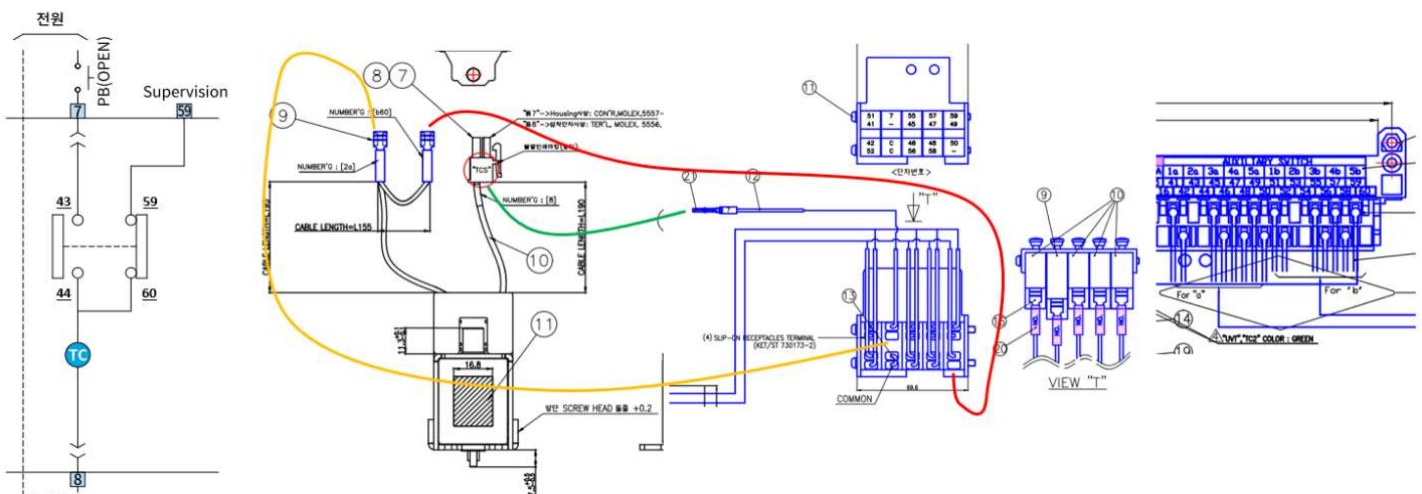

FIG 4
5. TCS코일은 FIG 4와 같이, 케이블을 결선해주시시오.
5. If it is a TCS coil, Please connect cable with Aux switch like FIG 4.